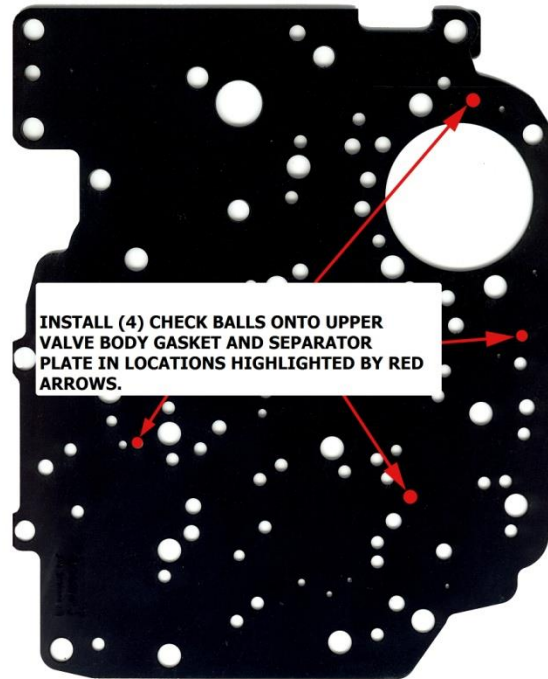

Figure 1
4. Install (4) new check balls onto new upper valve body gasket and new separator plate (*see figure 1*). Use some TransJel® assembly lubricant or petroleum jelly to hold check balls to gasket and separator plate if necessary. Install check balls, upper gasket, and separator plate onto transmission. Use the support plate to hold the gasket and separator plate in place. Lightly hand-tighten the support plate bolts. **DO NOT** fully tighten the support plate bolts until valve body is installed. **DO NOT** install any other check balls into the transmission other than the (4) new check balls included in the kit.
(Figure 1)